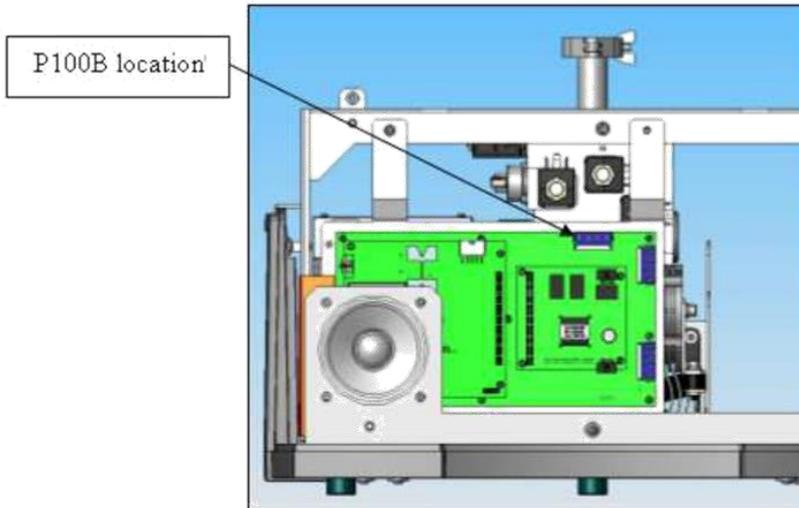

Figure 4: I/O Cable to Mother Board
8. Connect the I/O cable end labeled P100B, provided with the kit, to J100 (marked Yellow) on the mother board PCB (Figure 4: I/O Cable to Mother Board). Then run the cable along the base of the leak detector to the I/O board location.